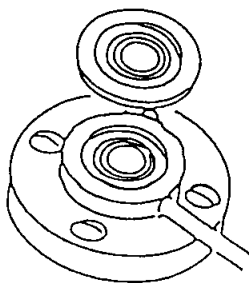

Figure 5.5
3. Fit the FEP protective diaphragm onto the flange diaphragm surface. Lift one side and fit gently from the opposite direction, being careful to exclude all air. (refer to Figure 5.5.)